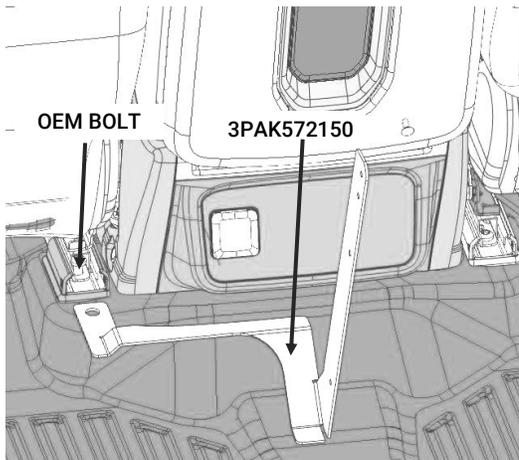

Figure 3
- B. Slide the center mount bracket [3PAK572150] underneath the seat rail, aligning holes and start OEM bolt back into mounting hole (Fig 3). Fastener will be tightened in a later section.